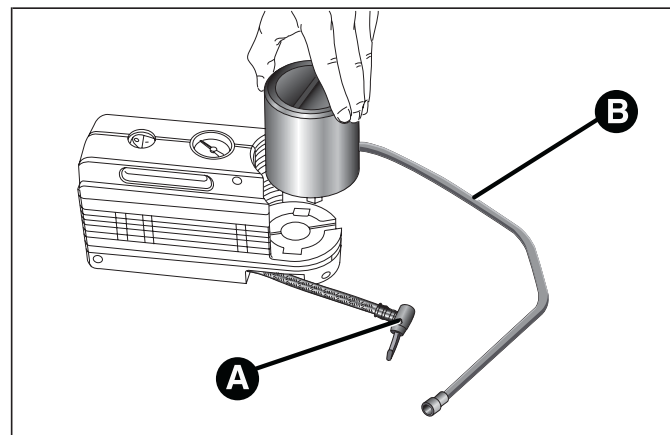

fig. 124
- ☐ disconnect connection A fig. 124;